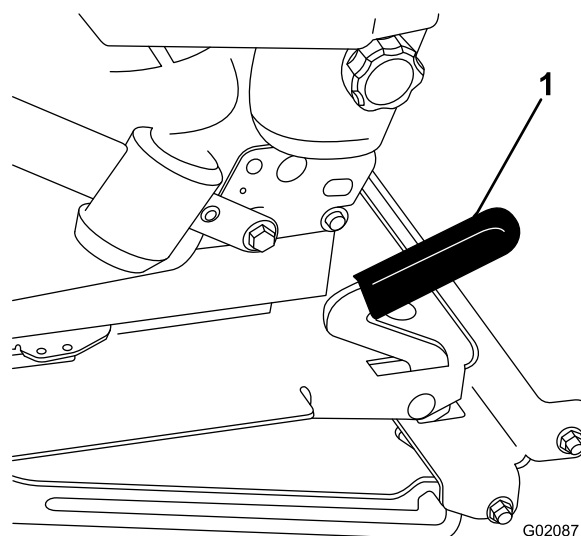

Figure 25
2. Pull the seat latch lever forward and lift up to unlatch the seat (Figure 25).